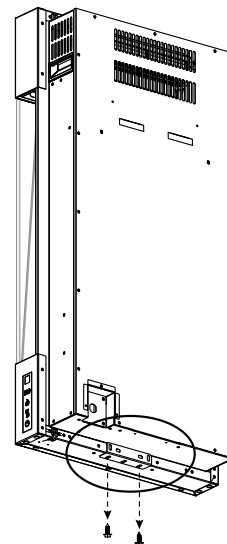

Fig. 1
3. Remove the bottom bracket (**Fig. 1**). Set aside.